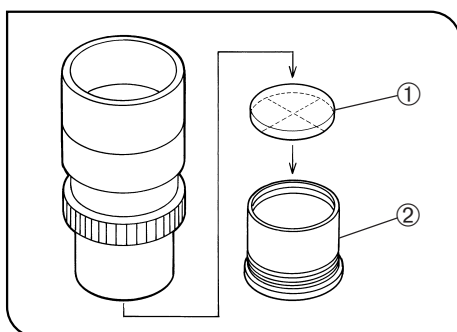

Fig. 28
4 Using the Eyepiece Micrometer Disk (Fig. 28)
Following Fig. 28, turn the built-in micrometer-mounting frame ② counterclockwise to remove it from the eyepiece and place a micrometer disk.